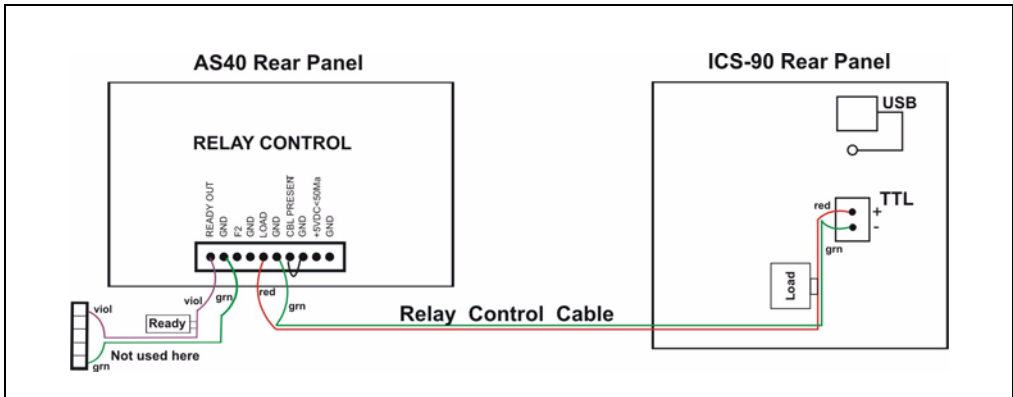

Figure B-23. AS40 Automated Sampler Connection
- b. Connect the Relay Control cable's 10-pin connector to the **RELAY CONTROL** connector on the AS40 rear panel (see Figure B-23).